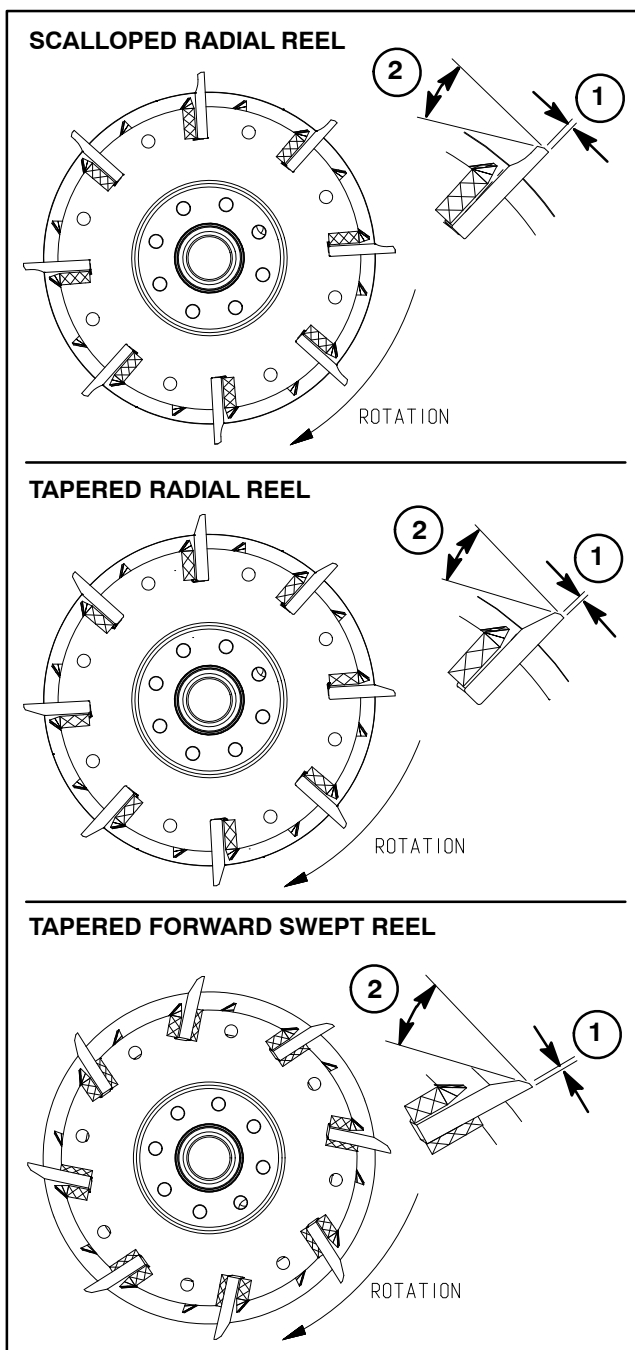

Figure 37
Three (3) types of reel designs are used in Reelmaster cutting units: scalloped radial reel, tapered radial reel and tapered forward swept reel (Fig. 37). The radial reel designs have blades that are placed in line with the center of the reel shaft. The rear of the blades either have a scalloped relief or a tapered relief. The forward swept reel have blades that have a slight forward slant. The rear of the forward swept reel blades have a tapered relief. Before grinding a reel, identify the type of reel design to make sure that grinding is correctly done.